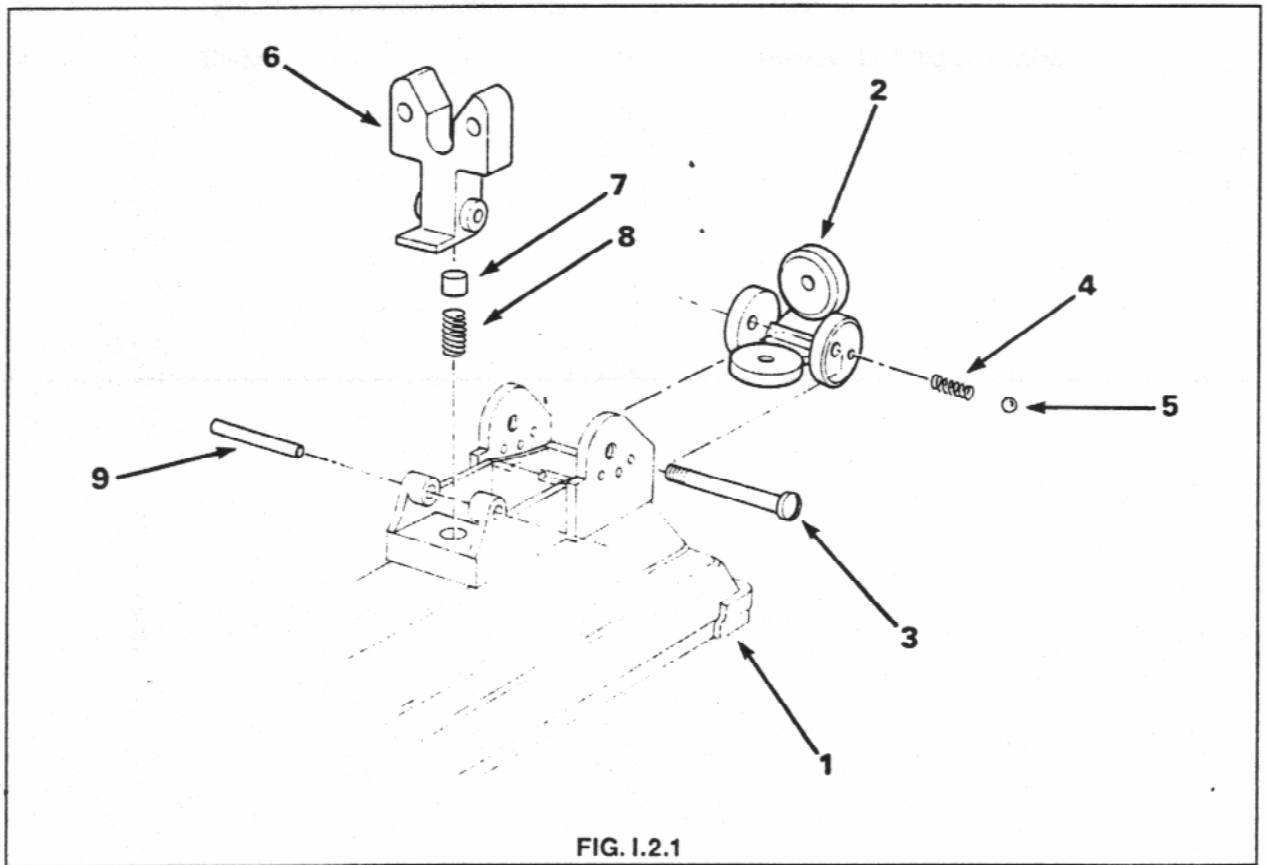

FIG. 1.2.1
2. The rear sight assembly consists of the following components, as illustrated in Fig. 1.2.1.